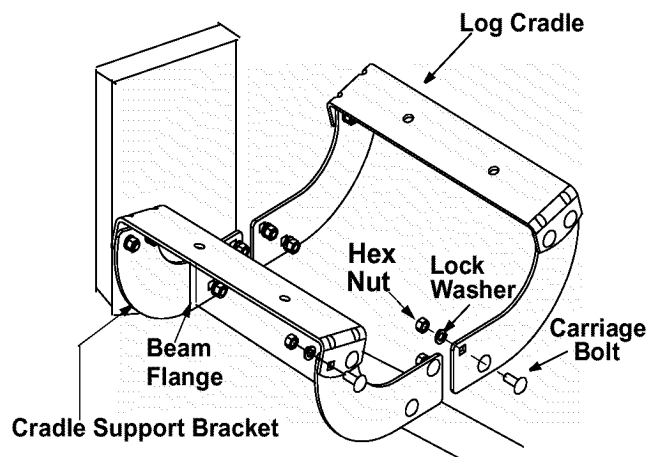

Figure 11
- Place one cradle support bracket against the lower outside surface of one of the beam flanges. See Figure 11.
- Insert four carriage bolts through the log cradle and cradle support brackets. Secure with lock washers and hex nuts and tighten all eight carriage bolts and nuts securely. See Figure 11.
- Attach the other cradle support brackets and log cradle to the other side of the beam in the same manner. See Figure 11.